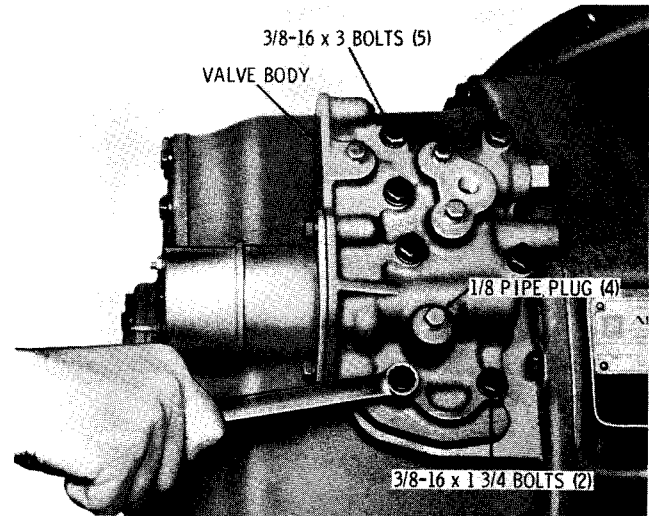
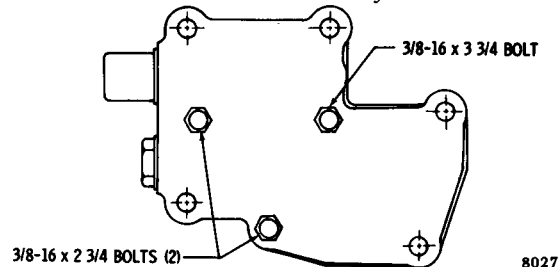

Fig. 5-3. Removing (or installing) drive clutch control valve assembly
Fig. 5-4. Splitter clutch control valve assembly retaining bolts (later VS2)
(2) Remove seven bolts and lockwashers from the drive clutch control valve assembly (fig. 5-3).
(3) Remove the valve assembly, gasket 5 (B, foldout 14), accumulator valve 4, spring 2 and spring 3. Refer to paragraph 6-3 for rebuild of the drive clutch control valve assembly.
(4) On the VS2 series only, remove three bolts and lockwashers from splitter clutch control valve assembly (fig. 5-4). Remove the valve body assembly and gasket. Refer to paragraph 6-4 for rebuild of the splitter clutch control valve assembly.